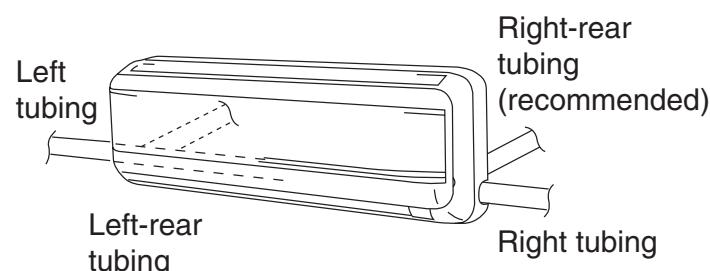

Fig.12
- Determine which side of the unit you should make the hole for tubing and wiring. (Fig.12)